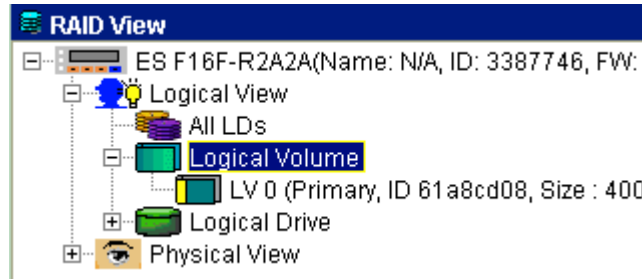

Figure 8-46: List of LVs
Step 4. Select the “**Logical Volume**” icon from the Logical View navigation panel shown in *Figure 8-1*. As shown in *Figure 8-46*, all the LVs that have been created will appear below the “**Logical Volume**” icon.
Step 5. From the list shown in *Figure 8-46*, select the LV that you wish to expand. Once this LV has been selected a “*View and Edit LV Partition*” table will appear in the content panel. At the top of this window the two tabs (“*Partition*” and “*Operation*”) shown in *Figure 8-47*, will appear. Select the “*Operation*” tab.
Step 2. From the list shown in *Figure 8-46*, select the LV that you wish to delete. Once this LV has been selected a “*View and Edit LV Partition*” table will appear in the content panel. At the top of this window the two tabs (“*Partition*” and “*Operation*”) shown in *Figure 8-47*, will appear. Select the “*Operation*” tab.